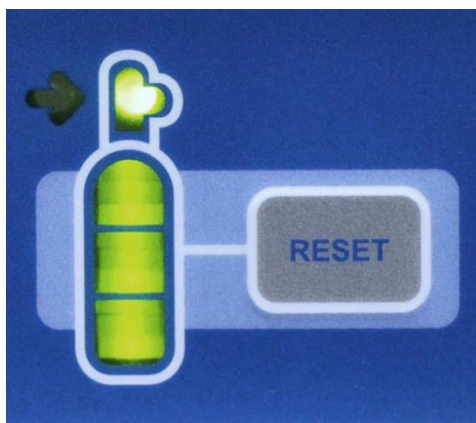

FIGURE 12: N₂O GAS GAUGE RESET BUTTON
- Find the gas cylinder display on the front of the ACM and note the RESET button to the right of this display, see Figure 12.